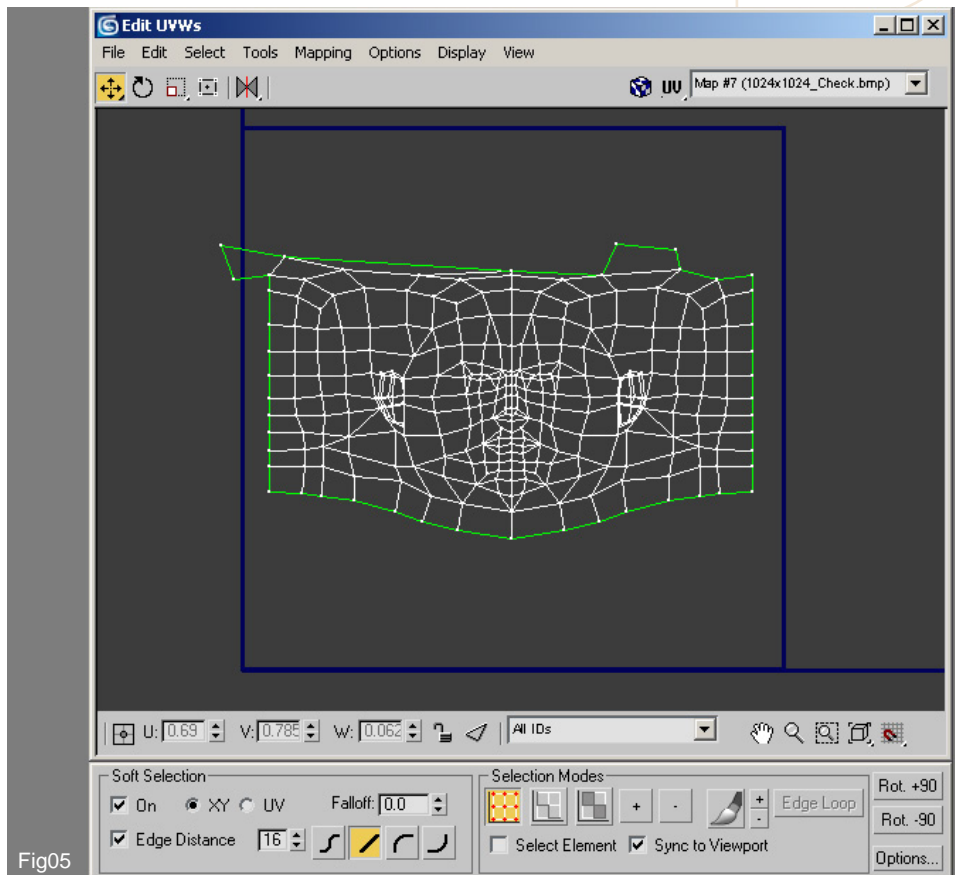

Fig05
5. In order to do this click on the large Edit tab under parameters to open up the Edit UVWs window (Fig 05). This window gives us access to our mapped geometry in the form of a flattened lattice of verts and faces – in this case a head and neck area. You will notice along the top of the window are some of the standard transform tools and in the window itself you will see a blue square that represents our template size which in this case is a 1024x1024 map seen in the upper top right.